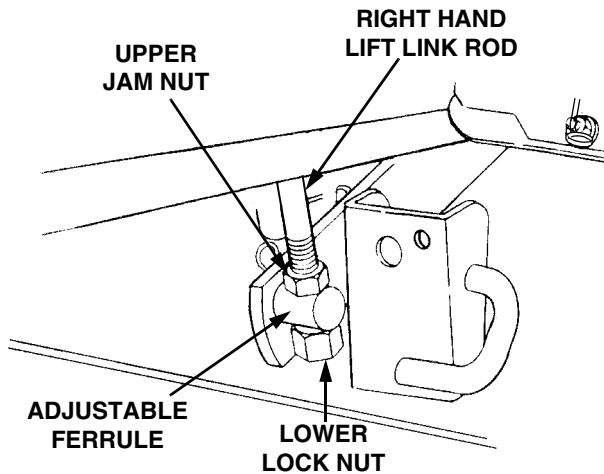

Figure 52
7. Side-to-side leveling is obtained utilizing the adjustment ferrule and right hand lifty link rod (Refer to Figure 52).
8. Loosen the upper jam nut on the lift link rod and turn away from the adjustment ferrule. Turn the lower lock nut upward (tighten) on the threads of the rod to raise the right side of the mower deck. Turn the lock nut down (loosen) on the threads to lower the right side of the mower deck (See Figure 52).